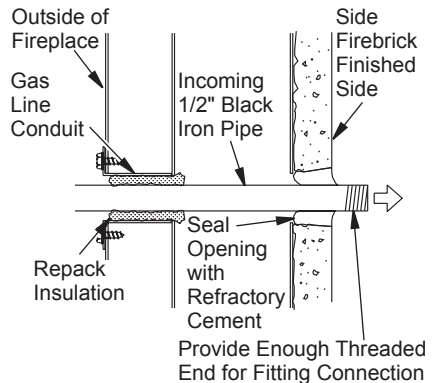

Figure 18 - Gas Line Installation
2. Run a 1/2" black iron gas line into the fireplace through the rear at gas line conduit sleeve (if using a raised platform, add height). Provide sufficient gas line into fireplace chamber for fitting connection (see Figure 18). **Note:** Secure incoming gas line to wood framing to provide rigidity for threaded end.